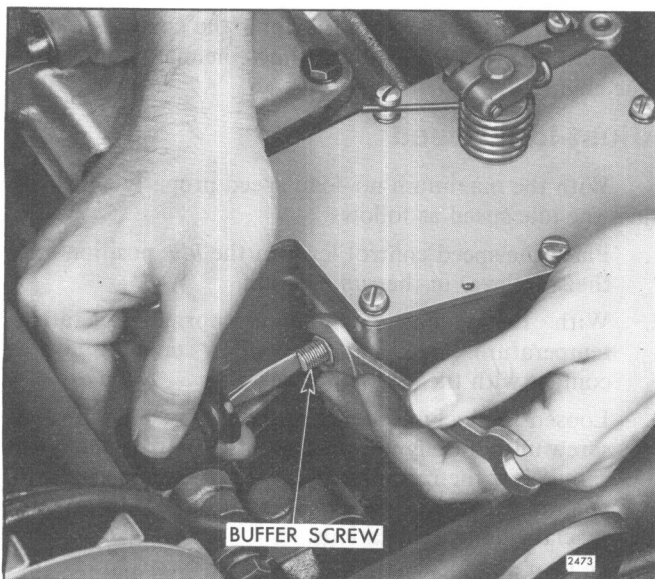

Fig. 6 – Adjusting Buffer Screw
1. With the engine running at normal operating temperature, turn the buffer screw IN so that it contacts the differential lever as lightly as possible and still eliminates engine roll (Fig. 6). Do not raise the engine idle speed more than 15 rpm with the buffer screw.